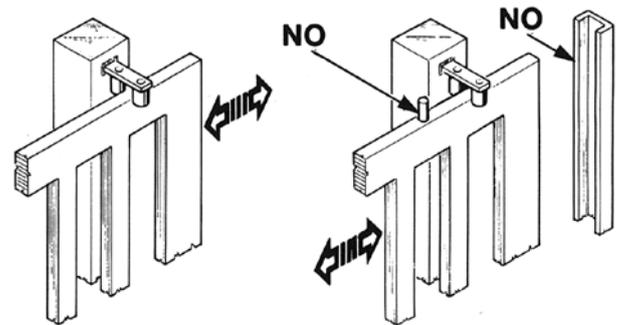

FIG. 3
- Gate columns shall have anti-derailment guides on their top (Fig. 3), to avoid the unintentional gate release.
**Note:** Eliminate those mechanical stops of the kind described by Fig. 3.